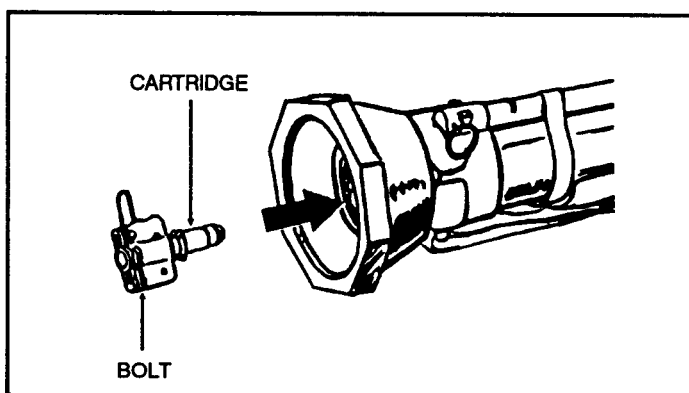
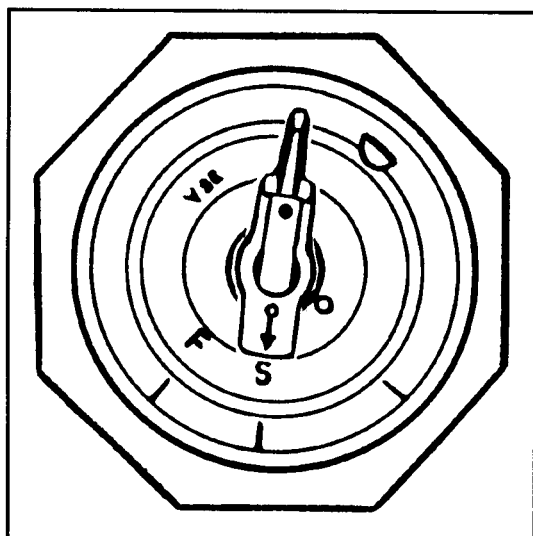
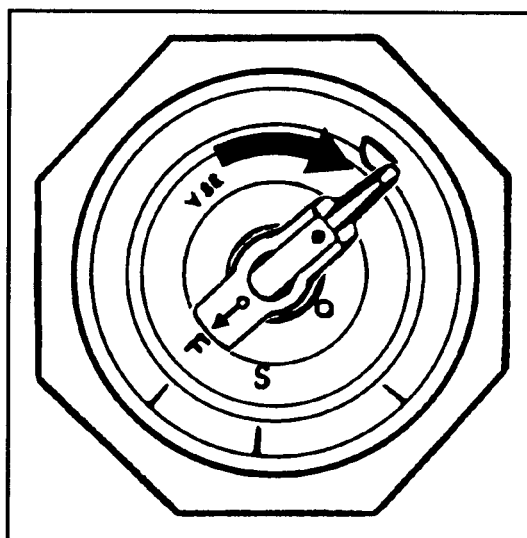

Figure B-9. Inserting bolt with cartridge into the breech of the M287 tracer trainer.
Figure B-10. Ensuring tracer trainer bolt is in the safe position.
Figure B-11. Arming the tracer trainer.
(1) The *firer* performs the function check and places the M287 tracer trainer on his shoulder.
(2) The *trainer* looks through the barrel from the rear to verify that it contains no obstructions. He inspects the cartridge primer to ensure it is not dented, inserts the bolt into the breech (Figure B-9), and presses in and turns the bolt clockwise to the "S" to place it in the safe position (Figure B-10). Then he arms the tracer trainer by turning the bolt clockwise to "F" so that it can be fired (Figure B-11).
(3) With the launcher still on his shoulder, the *firer* cocks the launcher by placing the cocking lever in the cocked position.